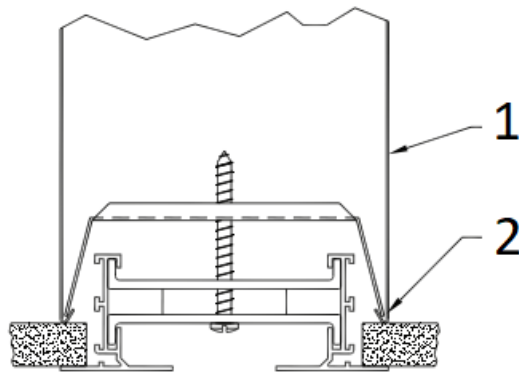

Figure 17. Finished Installation of Diffuser in Ceiling
- Figure 17 depicts the finished installation of the diffuser and plenum in the hard ceiling.